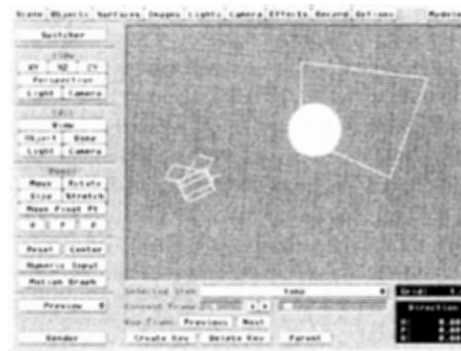

Figure 2: Because of the limited scene area, objects must be placed in front of the screen at all times.
- Select the ZY (side) view and make sure that all objects are positioned in front of the screen object and not overlapping or behind it (Figure 2).